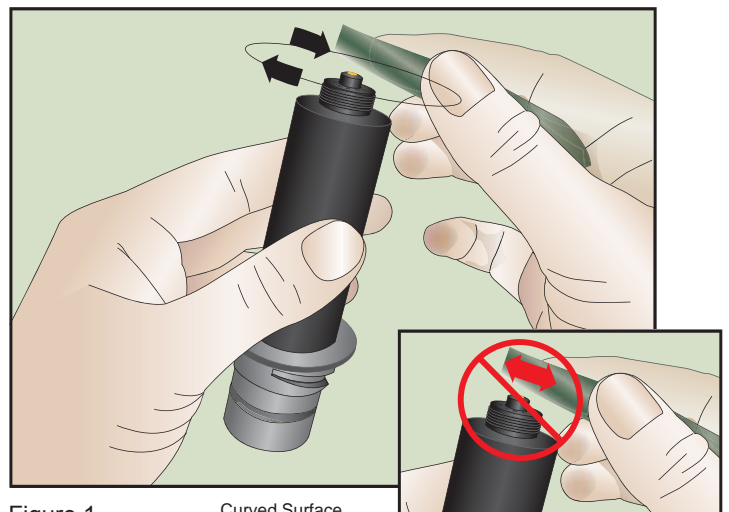

Figure 1
5. Polish the gold electrode by moving the paper in a circular pattern for 30 seconds. **DO NOT** go back and forth in a single direction. See Figure 1.
7. Apply a small amount of DI water to the White (Fine) polishing paper (dull side) and polish the gold electrode by moving the paper in a circular pattern for 30 seconds. **DO NOT** go back and forth in a single direction. See figure 1.